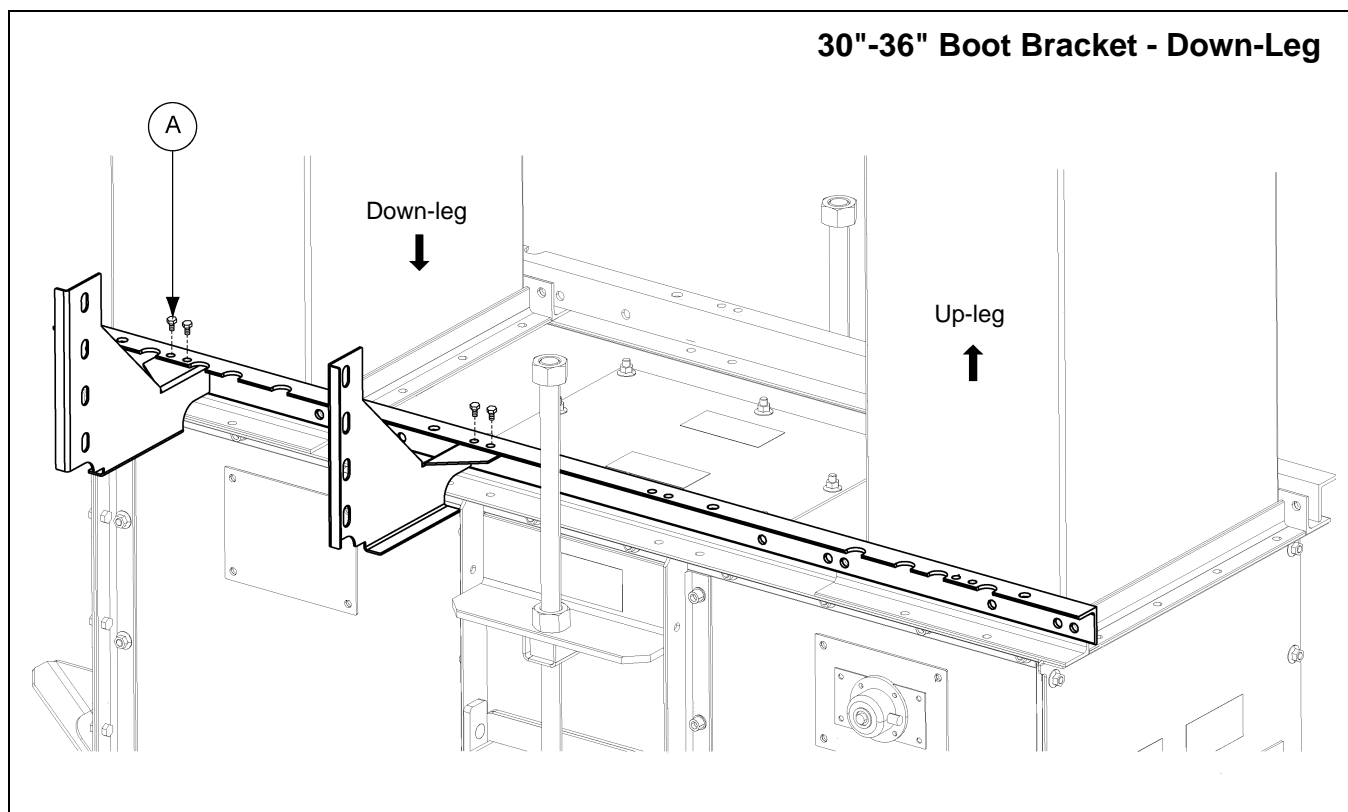
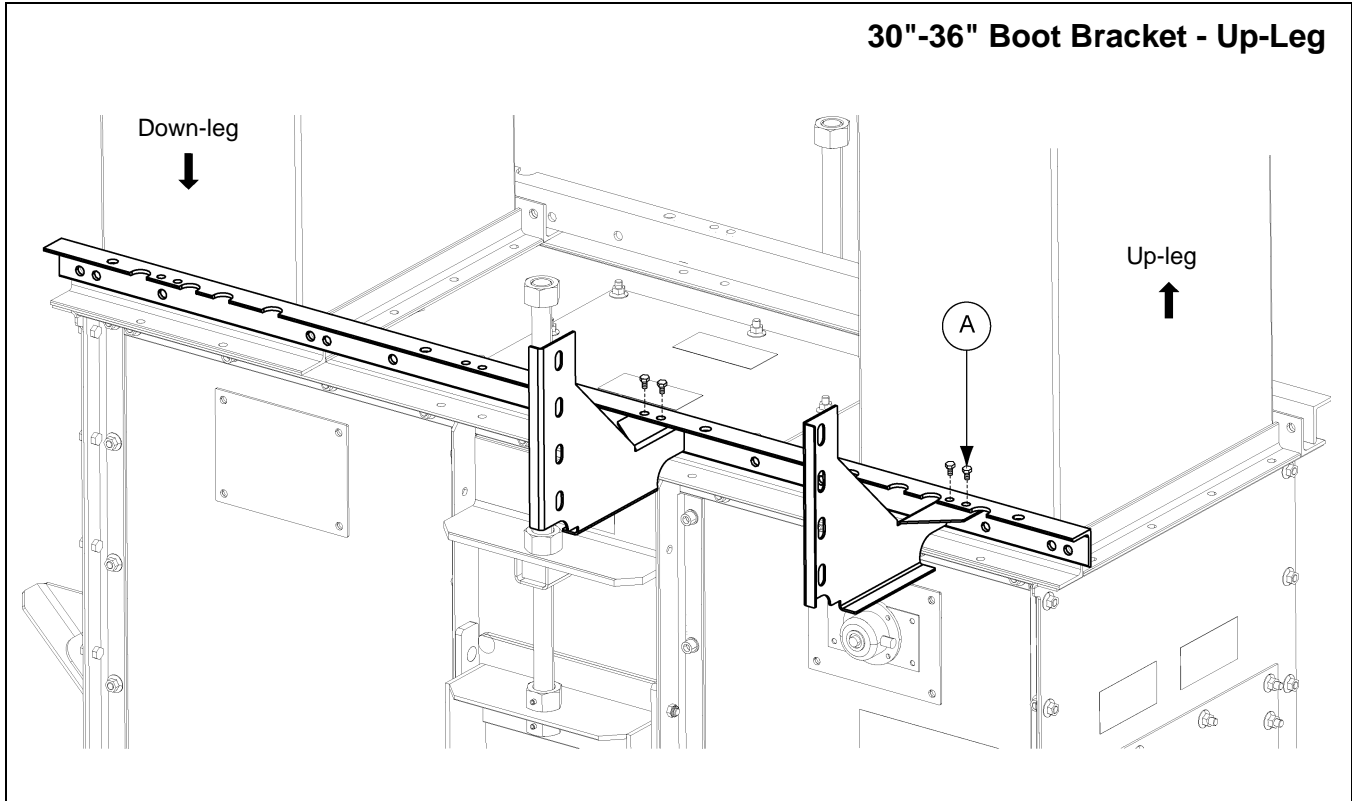

Figure 6C 30"-36" Boot Bracket Down-Leg
Figure 6D 30"-36" Boot Bracket Up-Leg
1. Use the holes indicated based on bucket elevator size in Figure 6C and attach ladder support brackets to boot tie angle using 3/8" x 1" hex bolts (S-7469) (A). Remember to double check if the ladder should start on the up-leg side or the down-leg side. (See Figure 6C below and Figure 6D on Page 21.)
- a. **30"-36" Down-Leg Bracket:** Use 3/8" x 1" hex bolts (S-7469) (A) to attach the ladder support brackets to the boot tie angle using the holes indicated in Figure 6C. Note the outer bracket uses the first set of holes on the outside.
- b. **30"-36" Up-Leg Bracket:** Use 3/8" x 1" hex bolts (S-7469) (A) to attach the ladder support brackets to the boot tie angle using the holes indicated in Figure 6D. Note the outer bracket uses the first set of holes towards the outside.